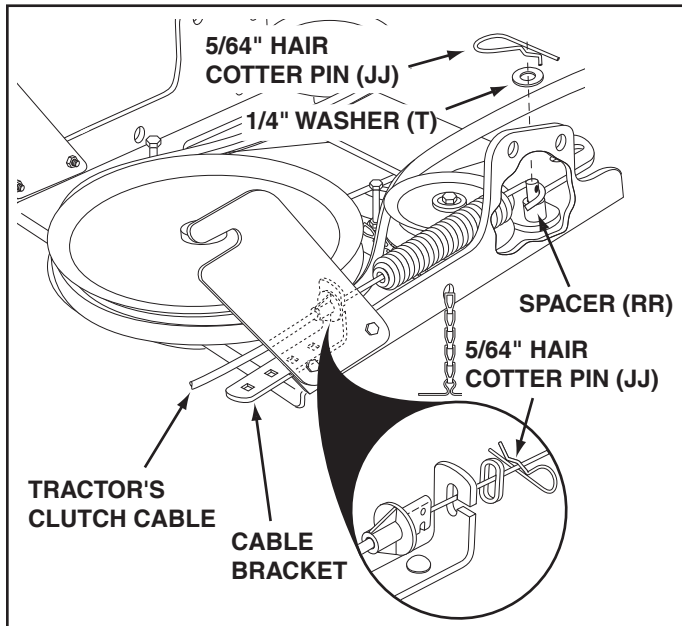

FIGURE 11
STEP 11: (SEE FIGURE 11)
- Attach the tractor's mower clutch cable to the cable bracket on the clutch/idler assembly. Secure the cable housing guide (groove down) to the cable bracket using the original collar and a 5/64" hair cotter pin (JJ).
- Place a spacer (RR) on the welded pin on the idler arm. Hook the end of the clutch cable spring over the pin and secure it with a 1/4" washer (T) and a 5/64" hair cotter pin (JJ).